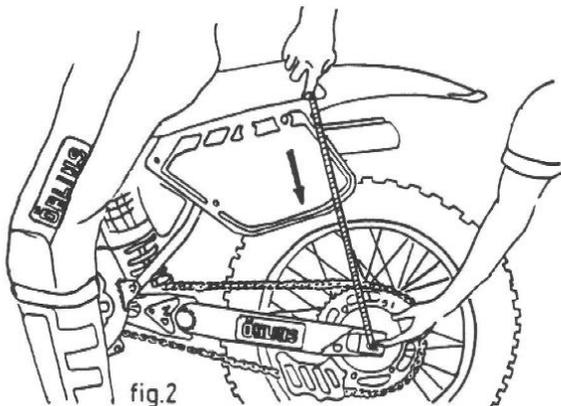

fig.2
3. Sit on the bike assuming normal riding position with the feet barely touching the ground. Have somebody to take measurement between the same points as before according to fig. 2. The difference between the two measurements ought to be 95mm \pm 5mm.